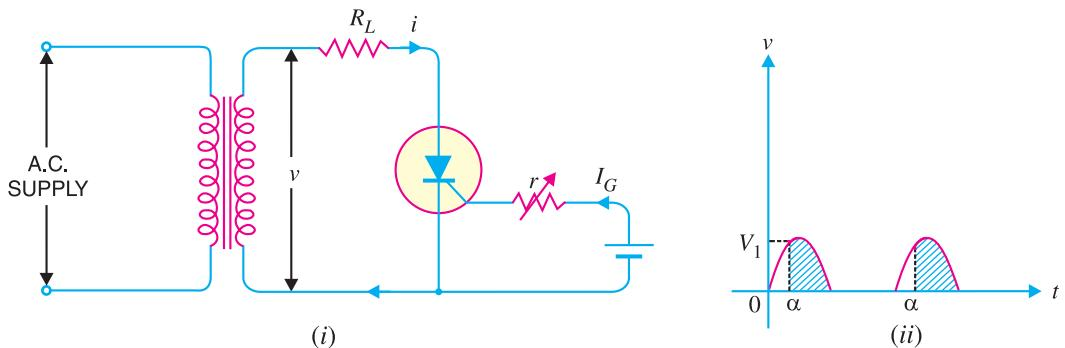

Fig. 20.12
One important application of an *SCR* is the controlled half-wave rectification. Fig. 20.12 (i) shows the circuit of an *SCR* half-wave rectifier. The a.c. supply to be rectified is supplied through the transformer. The load resistance *RL* is connected in series with the anode. A variable resistance *r* is inserted in the gate circuit to control the gate current.
(ii) The *SCR* will conduct during the positive half-cycles provided proper gate current is made to flow. The greater the gate current, the lesser the supply voltage at which *SCR* is turned *ON*. The gate current can be changed by the variable resistance  $r$  as shown in Fig. 20.12 (i).
(iii) Suppose that gate current is adjusted to such a value that *SCR* closes at a positive voltage  $V_1$  which is less than the peak voltage  $V_m$ . Referring to Fig. 20.12 (ii), it is clear that *SCR* will start conducting when secondary a.c. voltage becomes  $V_1$  in the positive half-cycle. Beyond this, the *SCR* will continue to conduct till voltage becomes zero at which point it is turned *OFF*. Again at the start of the next positive half-cycle, *SCR* will start conducting when secondary voltage becomes  $V_1$ .
(iv) Referring to Fig. 20.12 (ii), it is clear that firing angle is  $\alpha$  i.e. at this angle in the positive half-cycle, *SCR* starts conduction. The conduction angle is  $\phi (= 180^\circ - \alpha)$ .
**Mathematical treatment.** Referring to Fig. 20.12 (i), let  $v = V_m \sin \theta$  be the alternating voltage that appears across the secondary. Let  $\alpha$  be the firing angle. It means that rectifier will conduct from  $\alpha$  to  $180^\circ$  during the positive half-cycles.